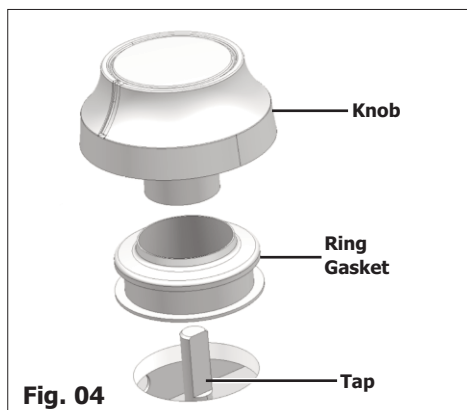

Fig. 04
• **Adjust the hob connections:** they are located underneath the knobs (Fig. 04).